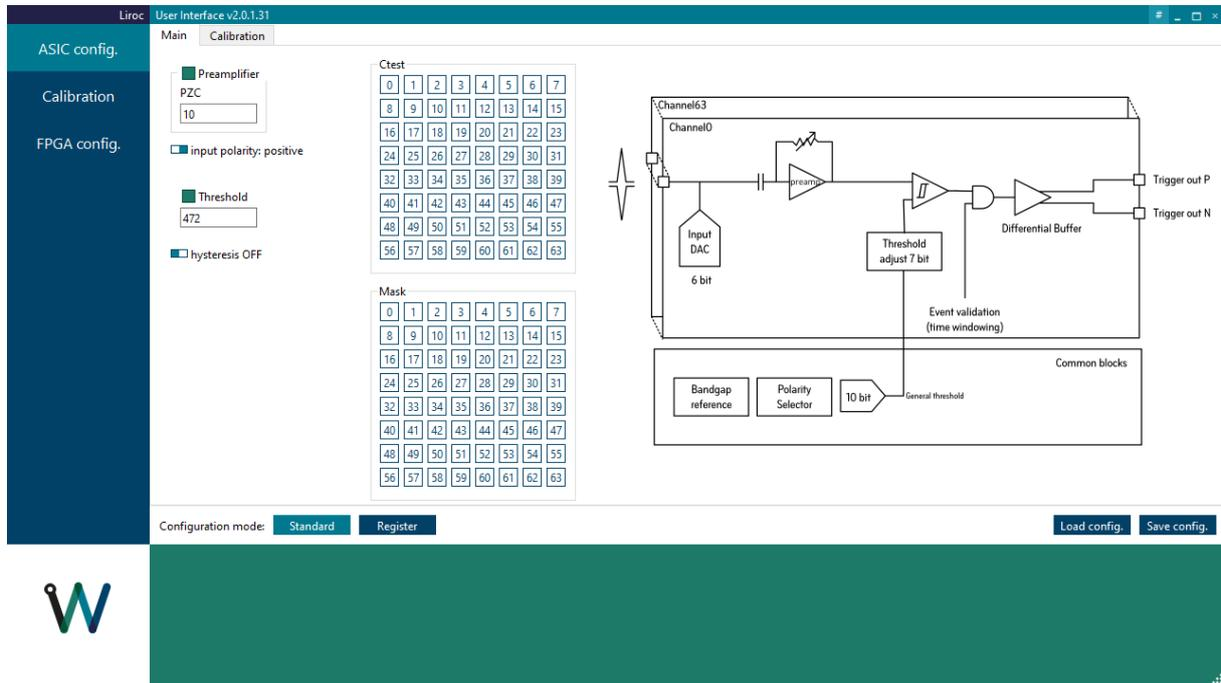

Figure 2 : ASIC configuration - Standard Mode - Main
- "Ctest" SMA connector input. This input will provide internal charge injection inside the ASIC through 100 fF capacitors. All 64 channels are accessible and need to be selected through the GUI (Figure 2)